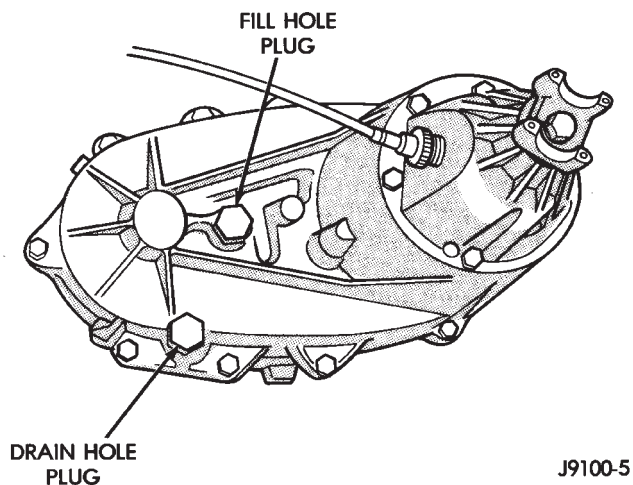

Fig. 5 Transfer Case—Typical
The transfer case fill hole plug is located at the rear of the housing (Fig. 5).
- (1) Raise and support the vehicle.
- (2) Remove the fill hole plug from the transfer case (Fig. 5). The fluid (ATF) level should be at the bottom edge of the fill hole. The level can be slightly below the bottom edge of the fill hole if the fluid is cold.
- (3) If the level is not acceptable, raise the fluid level to the bottom edge of the fill hole.
- (4) Install the fill hole plug (Fig. 5). Tighten the fill hole plug to 48 N·m (35 ft-lbs) torque.
- (5) Remove the support and lower the vehicle.
- (2) Remove the fill hole plug (Fig. 5) from the transfer case.
- (3) Place an appropriate container under the transfer case drain hole plug (Fig. 5).
- (4) Remove the drain hole plug and drain the ATF from the transfer case into the container.